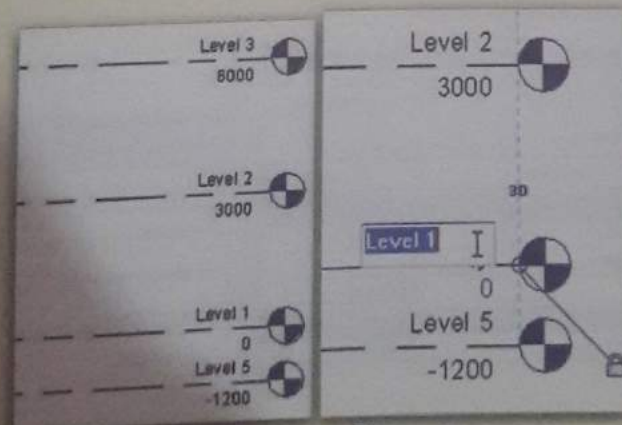

Figure 8: Levels.
5. In the same way create a level with an elevation of -1200 (Figure 8).